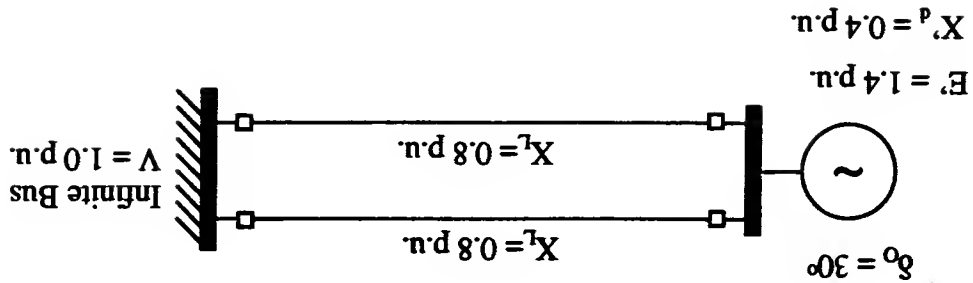

Figure 3
5. In the system shown in Fig. 3, one circuit of the double-circuit transmission line is opened suddenly. The system parameters and operating conditions before the disturbance are indicated in the same figure. Using the equal-area criterion, check the transient stability of the system after this disturbance. If it is stable, find the maximum angle of swing.